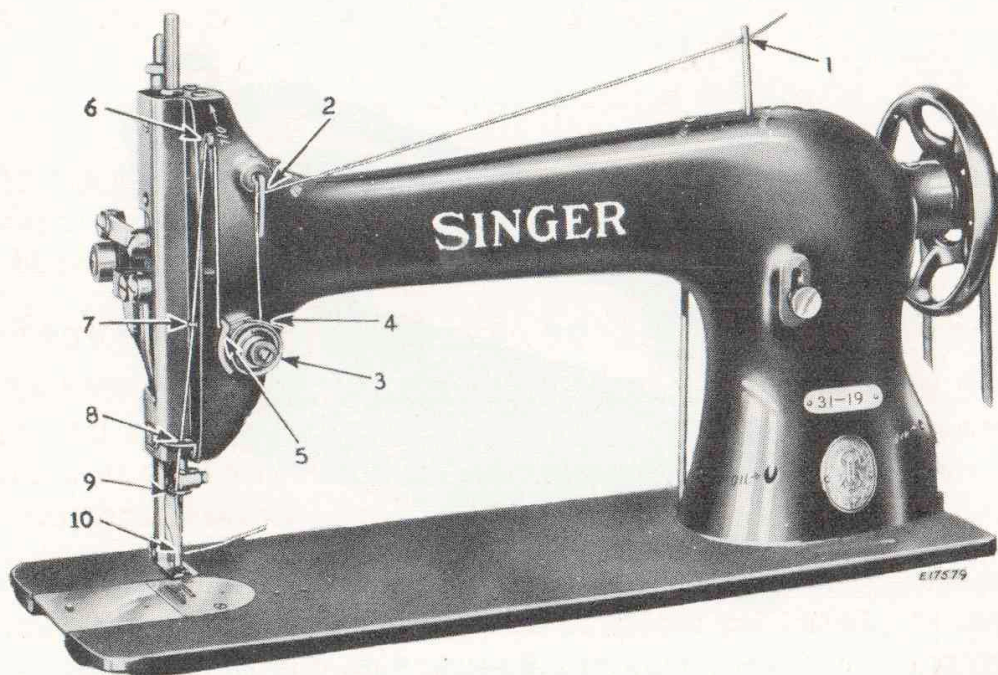

Fig. 11. Upper Threading
Pass the thread from the unwinder (or from the spool) from right to left through the hole in the top of the spool pin (1, Fig. 11), through the three eyelets in the thread retainer (2), as shown, down between the tension discs (3), into the thread take-up spring (4), under the guide (5), through the eyelet in the take-up lever (6), down through eyelets (7 and 8) on the face plate, through the guide (9) on the needle bar, then from left to right through the eye (10) of the needle.
The feeding mechanism should be timed so that the feed dog finishes its feeding movement (away from the operator) when the thread take-up lever (6, Fig. 11) is at its highest point. The feed dog should always finish its feeding movement before the needle reaches the goods on its downward stroke.